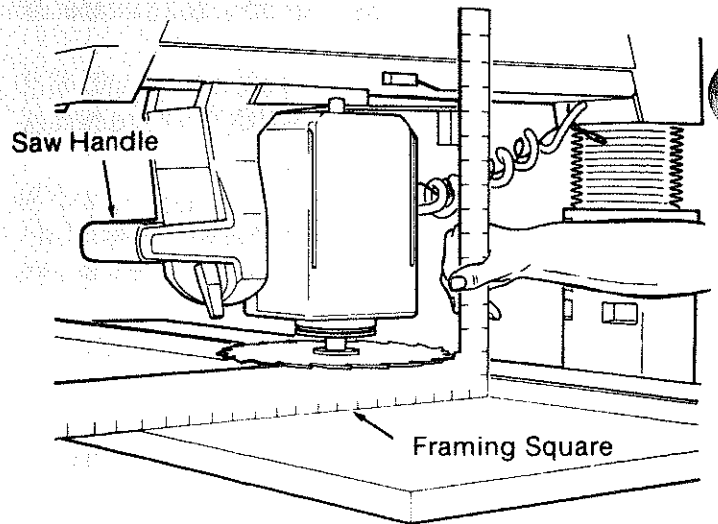

Fig. 120
5. Place the corner of the framing square against the *fence* so that the long edge is on the *table* under the *blade* and the short edge is sticking up in the air. Make sure that the long edge is perpendicular to the *fence*. (Figure 120)